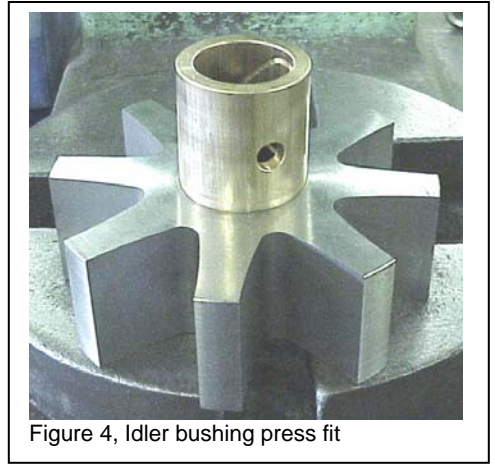

Figure 4, Idler bushing press fit
1. Press the idler bushing into the idler gear. If carbon graphite, refer to Installation of Carbon Graphite Bushings, page 10. Figure 4, page 3